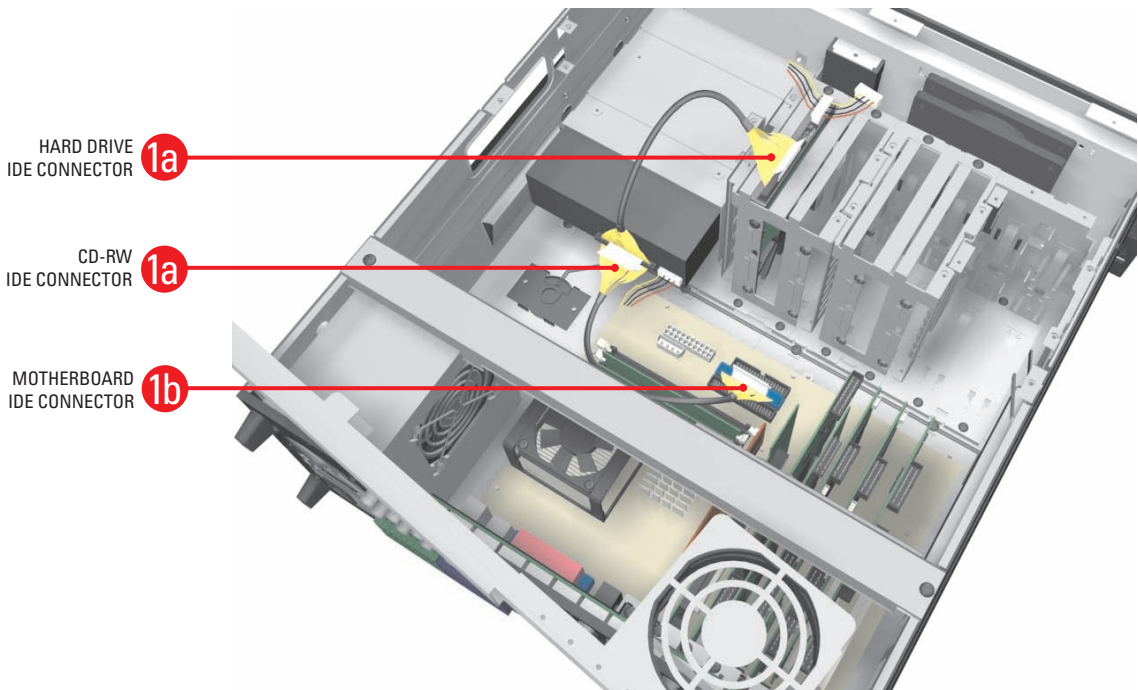

Figure 8. Removing IDE Data Cables
- a. Carefully pull the plastic tab of each cable connector away from the hard drive and CD-RW drive. Refer to Figure 8.
- b. Following the same procedure, remove the other end of each IDE cable from the drive interface connector on the motherboard. Refer to Figure 8.